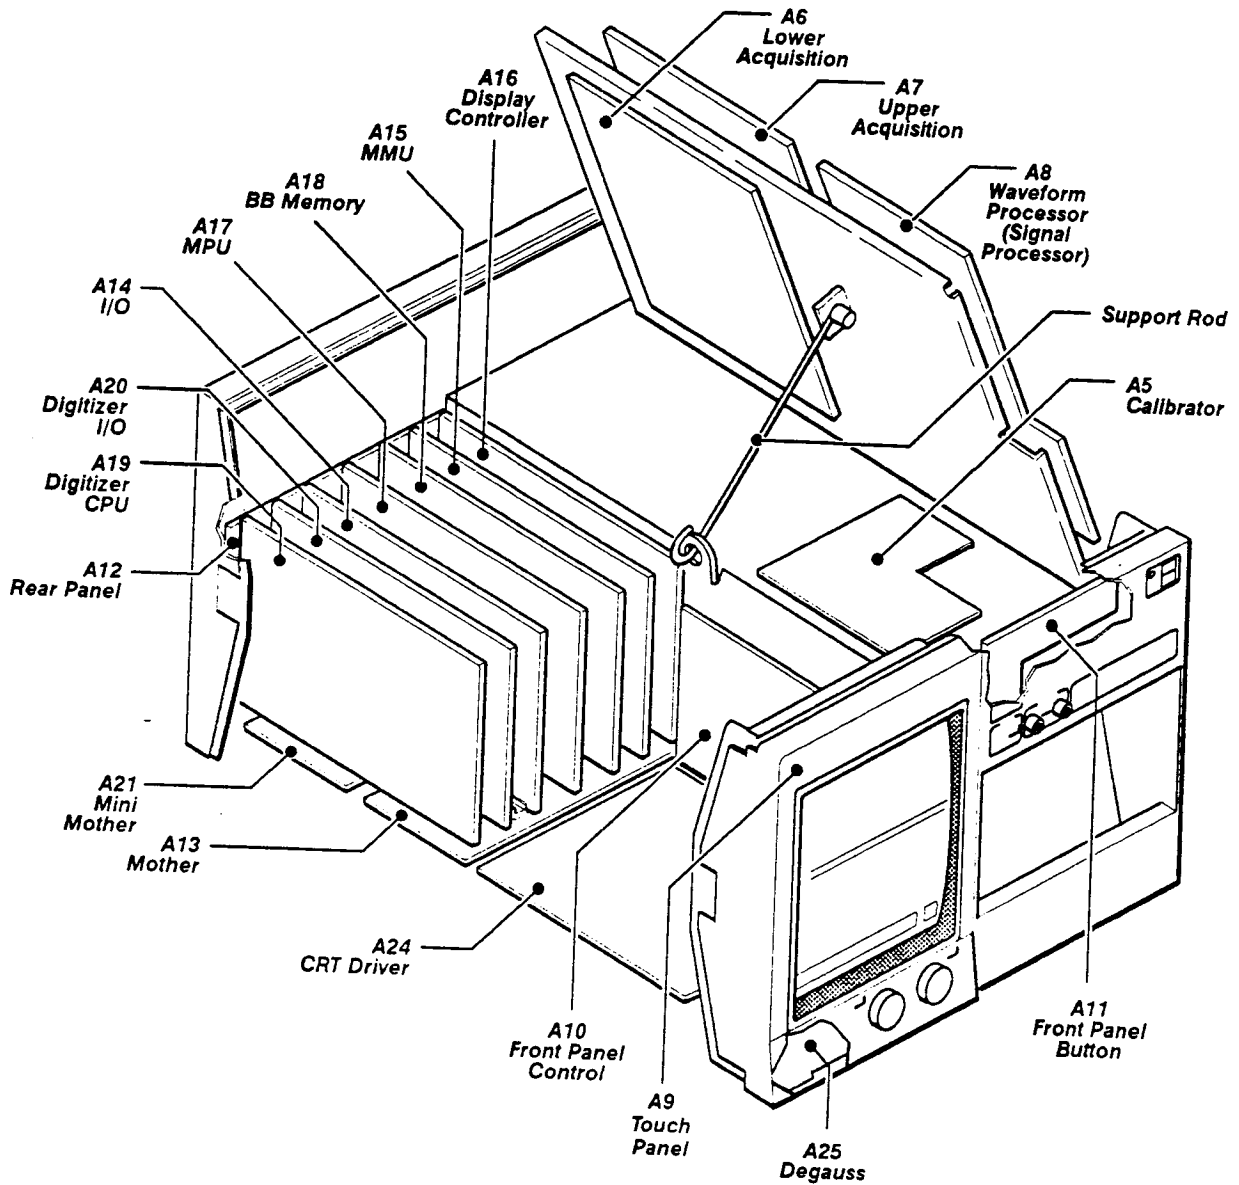

Figure 2, - Field Replaceable Units locator.
- 4. Raise the platform on its hinges, then secure the platform in the up position using the support rod (refer to the instructions printed on the back of the platform). Refer to Figure 2, Field Replaceable Units Locator.